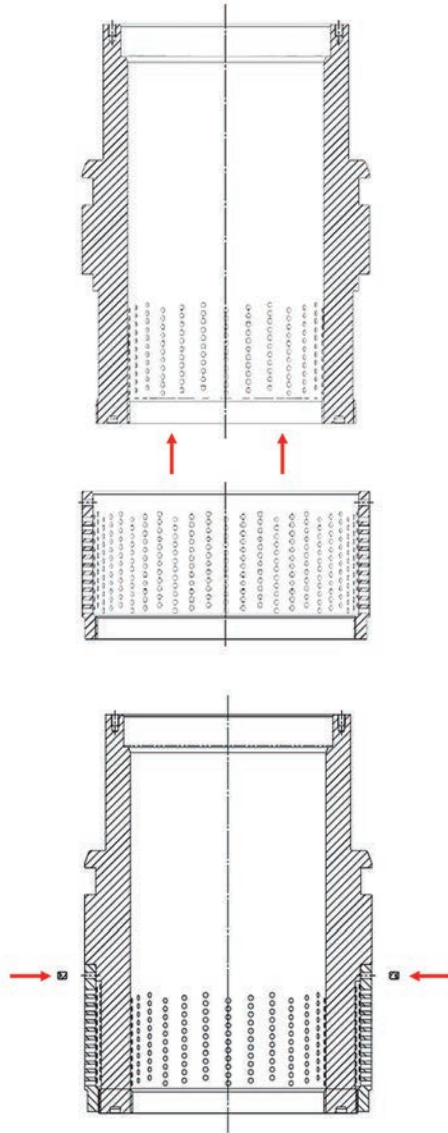

Figure 23 - Exploded View of 41355 API 6A Trim
3. In case of double cage TRIM 41355 API 6A see Table 13, assembly as Figure 23.
- a. Put the inner cage (13) upside down.